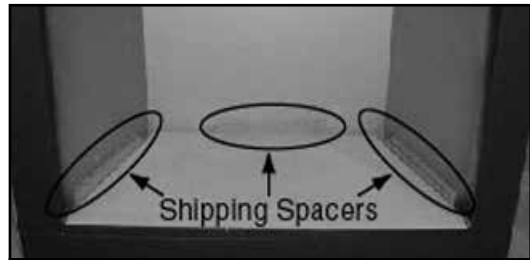
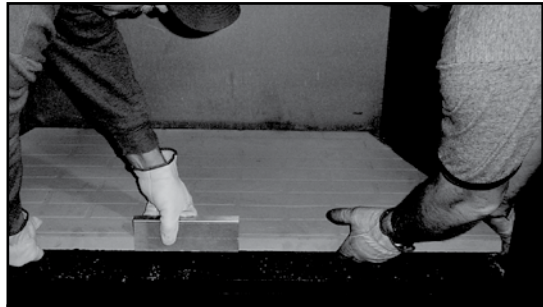

Figure 3.8 Shipping Spacers
Figure 3.9 Lifting Out Hearth Stone
- Remove hearth stone by removing three corrugated shipping spacers (Figure 3.8). Lift hearth stone out of fireplace. See Figure 3.9.